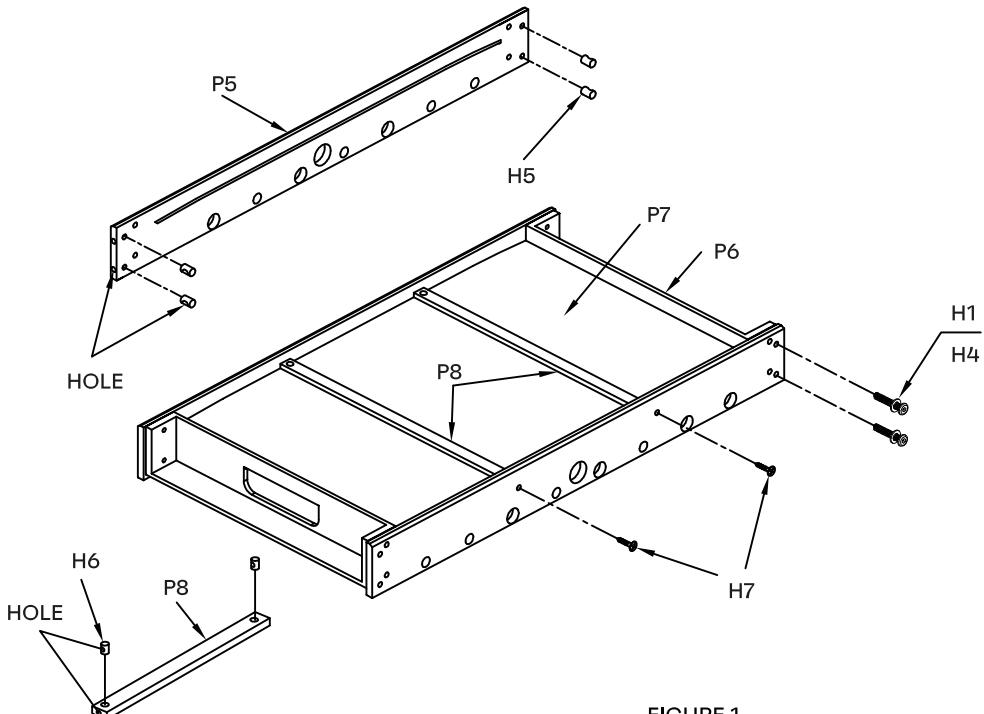

FIGURE 1
1. Insert the nut H5 into the hole of the football side panel P5 as shown in figure 1.
2. Slide playfield P7 into the groove on the side panels P5 with graphics facing down. See figure 1.
3. Attach the two end panels P6 to the side panels P5 as shown in figure 1. Attach the end panels with bolts H1 and washers H4 . Caution: do not over-tighten hardware!
4. Insert the nut H6 into the hole of the support braces P8 as shown in figure 1. Attach it with screws H7.